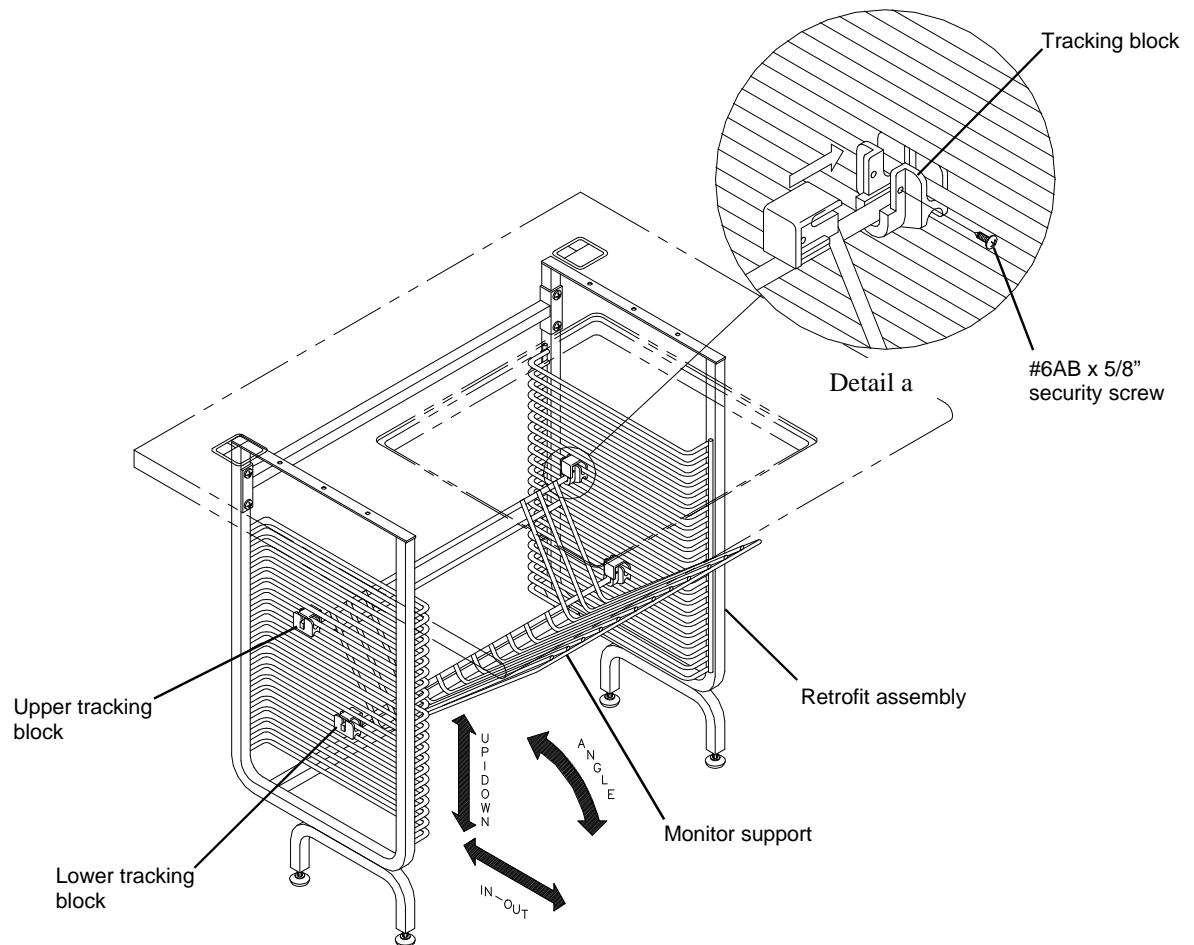

Figure 8
1. The Monitor Support is installed using the plastic **Tracking Blocks**. See **Figure 8**, detail a. For standard size monitors, a good starting point is nine bars down (rest the bottom of a Tracking Block on the ninth bar down from the top) and seven bars up (rest the bottom of a Tracking Block on the seventh bar from the bottom). **NOTE:** Do not install the security screws at this time.
3. To make angle adjustments, move either the top or bottom Tracking Blocks independently of each other. For height adjustments, move both bottom and top Tracking Blocks. To adjust the viewing distance, simply slide the Monitor Support forward or backward. When the adjustments are completed, install the #6AB x 5/8" Security screws. See **Figure 8**.